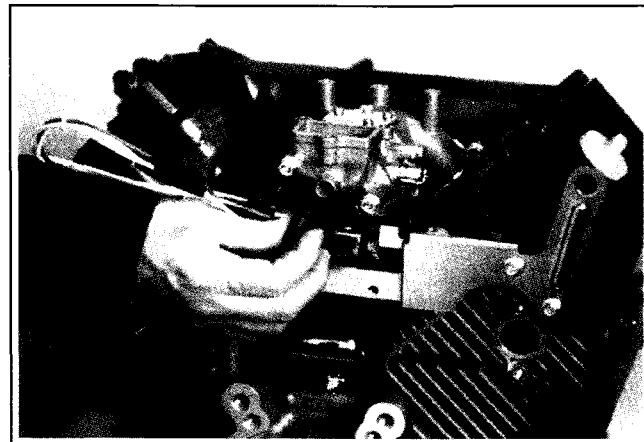

**Figure 9-6. Removing Muffler.**
1. On engine so equipped, remove the muffler from engine by removing the four hex. flange nuts (2 on each side) with a 13 mm flex socket. See Figure 9-6.